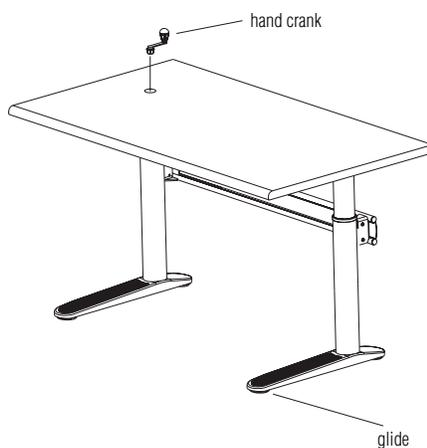

Figure 4
7. Carefully turn worksurface/base assembly upright and adjust worksurface to desired height with hand crank (Figure 4).